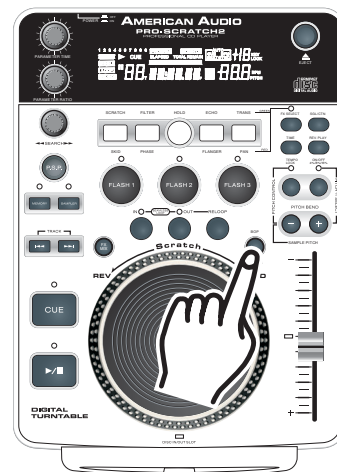

Figure 34
- 3) Now tap the *BOP BUTTON* (20). It will produce a stutter effect as quickly as you tap on the *BOP BUTTON* (20). See Figure 34.